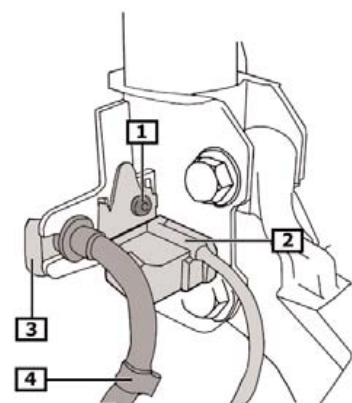
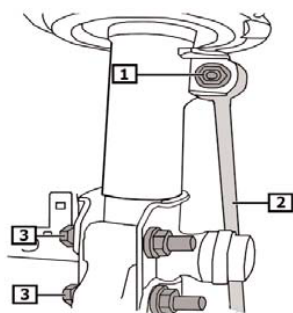
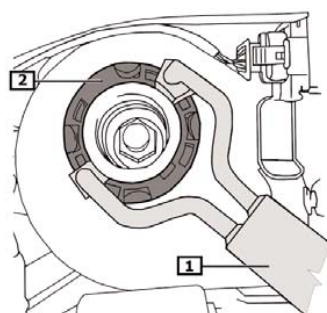

Fig. 4:
Fig. 5:
Fig. 6:
6. **Fig. 4** Remove retaining clamp (3).
7. Detach brake hose (4) from bracket.
8. Remove screw (1).
9. Remove CDC sensor (2) with bracket.
11. **Fig. 5** Unscrew bolt (1).
12. Detach coupling rod (2) from suspension strut.
13. Remove screws (3).
15. **Fig. 6** Hold suspension strut securely with a pin wrench. Remove lock ring (2).